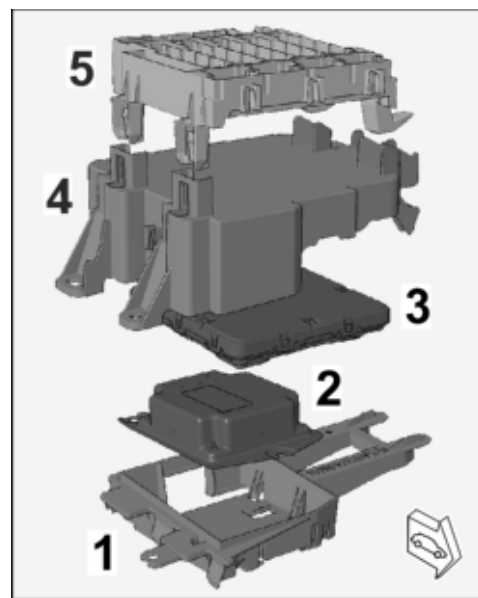

Figure 33
3.5 Secure holder with rear-end electronics control unit to engine noise control unit. ⇒ Figure 33 -3 & 4- ⇒ Workshop Manual '578919A2 Remove and install control unit for rear-end electronics'
Secure retaining frame for fuse box to rear-end electronics control unit holder. ⇒ Figure 33 -5- ⇒ Workshop Manual '978409A8 Loosening and securing fuse box in the luggage compartment'